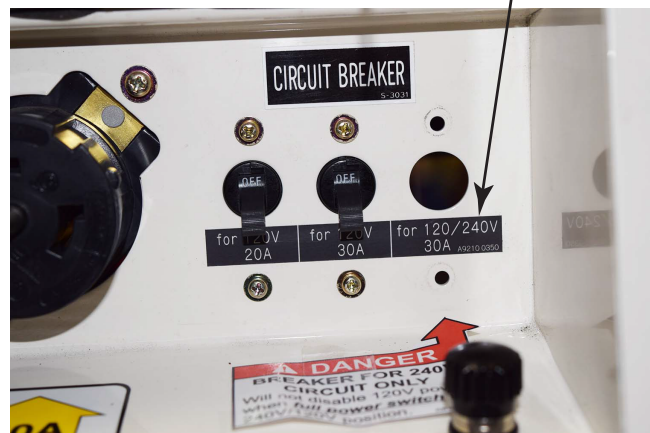

Figure 8. Removing Old Decal
1. Remove old decal strip from the front panel (see Figure 8).